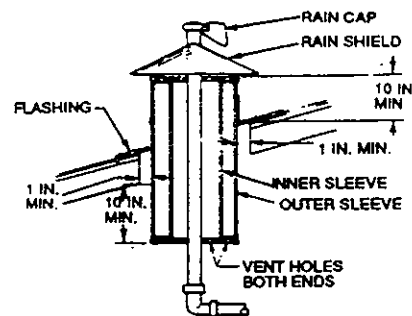

Figure 11 — Exhaust Piping Through a Ceiling
9. Use ventilated metal thimble (Figure 11) where exhaust piping must pass through combustible ceiling.